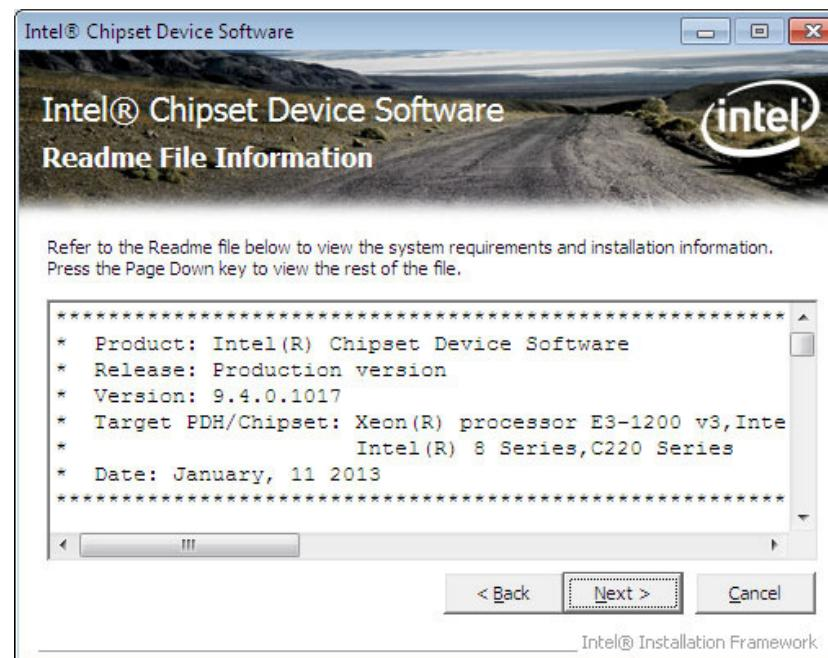

Figure 6-3: Chipset Driver Read Me File
Step 9: The Read Me file in **Figure 6-3** appears.